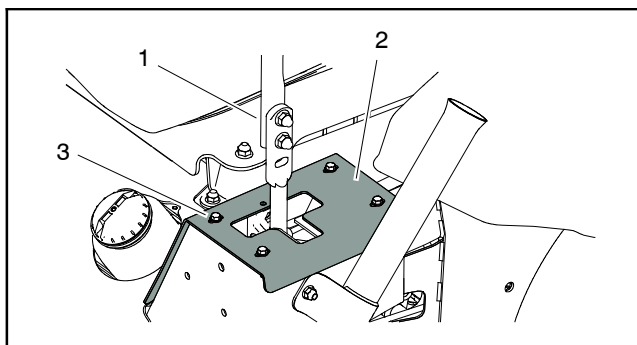

Figure 19
3. Remove control cover to access traction neutral switch that is to be tested (Fig. 19).